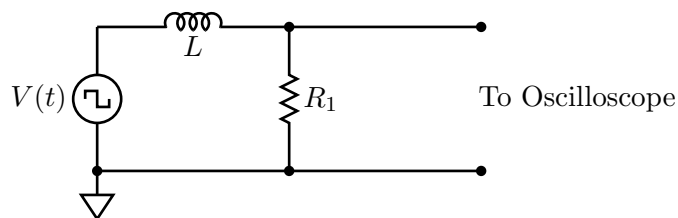

Figure 9.4.
4. Set up the following circuit (Fig. 9.4), using a nominal $100\ \Omega$ resistor as R_1 :